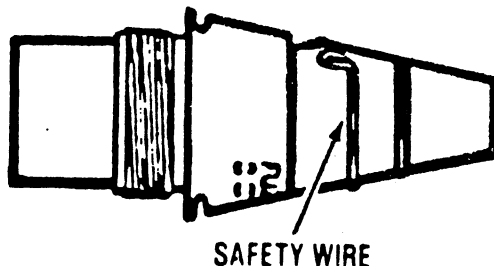

Fig 3-10. M567 series fuze.
- (2) The M567 Series Fuze (fig 3-10) has a SQ or D function. It comes preset to function on SQ and the selector slot should align with the SQ mark.